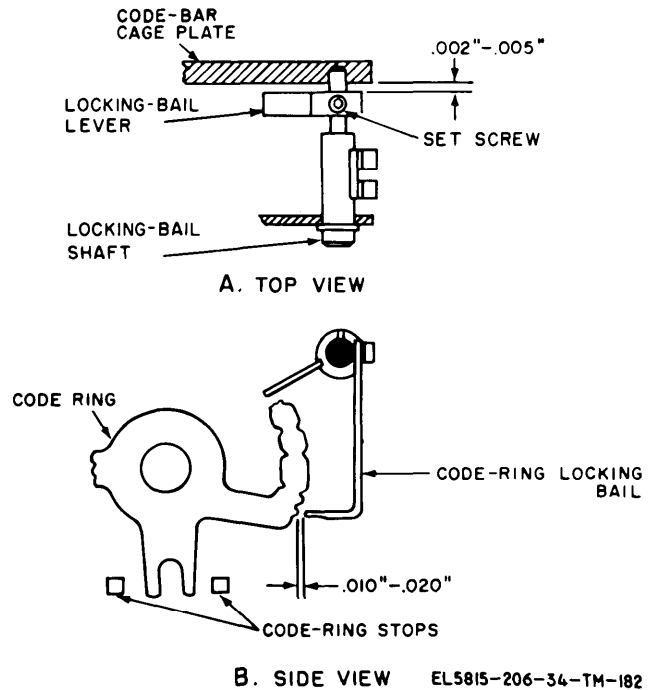

Figure 3-110. Locking-bail shaft adjustment (TT-4B/TG, TT-4C/TG, TT-335/TG, TT-537/G, TT-698A/TG, and TT-698B/TG).
(fig. 3-110)
(1) There should be .010- to .020-inch clearance between the code-ring locking bail and the code-ring projections (B, fig. 3-110) when the function shaft is in the stopped position.
(2) There should be .002 - to .005-inch end play in the locking-bail shaft (A, fig. 3-110).